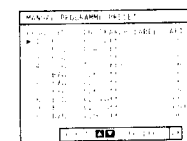

Fig. 17.
- 3 Select «Manual Programme Preset» with Δ or ∇ and press OK. The «MANUAL PROGRAMME PRESET» menu appears. (See Fig. 17.)